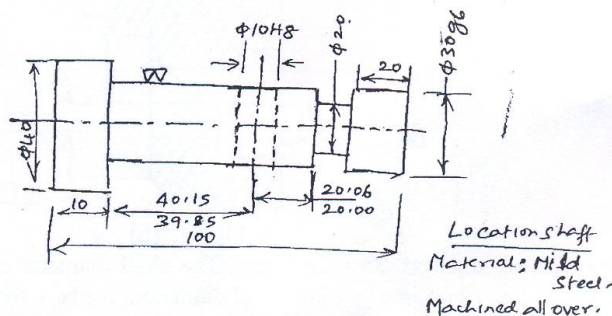

Fig. Q4 (c)
- c. A location shaft shown in Fig. Q4 (c) is to be manufactured in batches of 100. Prepare a suitable operation sequence chart and redraw the shaft showing appropriate manufacturing dimensions. (10 Marks)